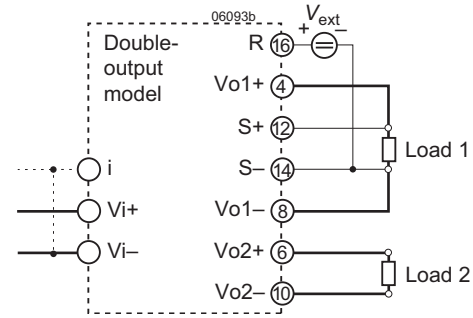

Fig. 20 Output adjust using an external control voltage  $V_{ext}$ .
- a) Adjustment by means of an external control voltage  $V_{ext}$  between R (pin 16) and S- (pin 14); see fig. 20.